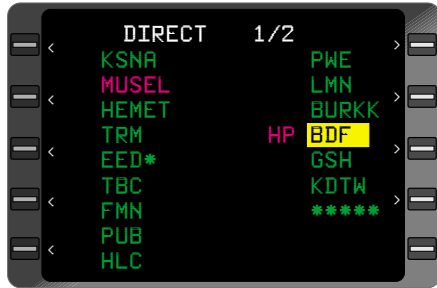

Figure 3-89
2. Line Select Key - DEPRESS to position the cursor over the desired **HP** identifier. (Figure 3-89)